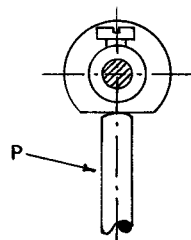
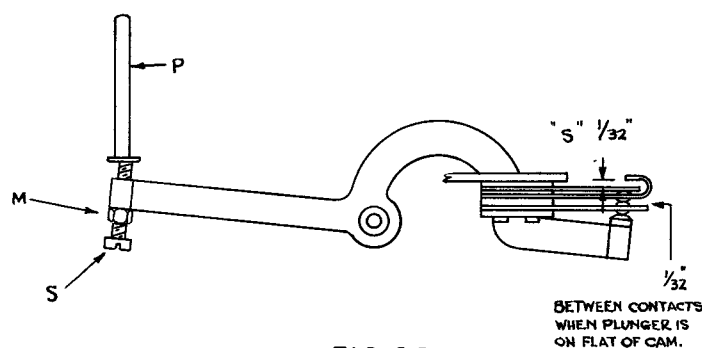

FIG 29
FIG 30
49. ROTATE THE ANSWER-BACK DRUM UNTIL THE PLUNGER P (FIG 29) IS FULLY DEPRESSED. CHECK THAT THE ALARM CONTACTS ARE CLOSED & THAT ADJUSTMENT "s" (FIG 30) (UNDERNEATH MAIN BASE) IS CORRECT.
50. WITH THE ANSWER-BACK DRUM NORMAL, THE PLUNGER P (FIG 29) SHOULD BE IN ITS HIGHEST POSITION. ADJUST SCREW S (FIG 30) UNTIL CLEARANCE BETWEEN ALARM CONTACTS IS 1/32" LOCK BY NUT M.